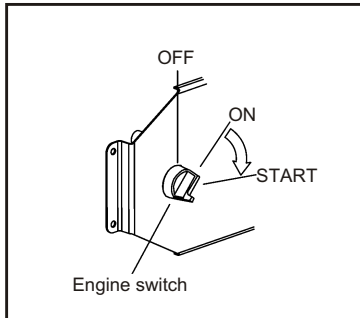

Fig.10 Starter motor scheme
4.4 Turn the engine switch to the START until the engine has started, see Fig.10.